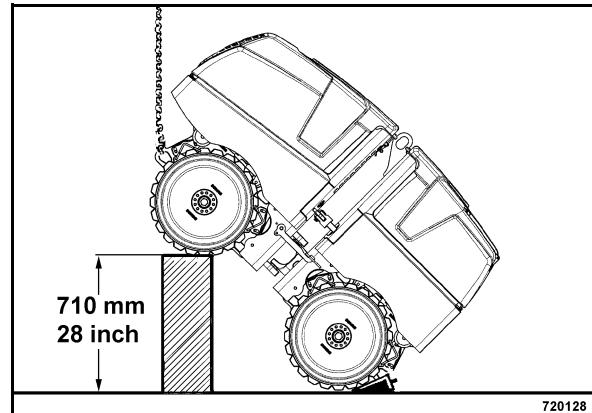

Fig. 104
- Lift the machine up and support it safely (Fig. 104).
- Jack up the opposite side of the machine and secure it adequately (Fig. 104).
- Check the tightening torque of the central screw on all 4 drive hubs (Fig. 104).